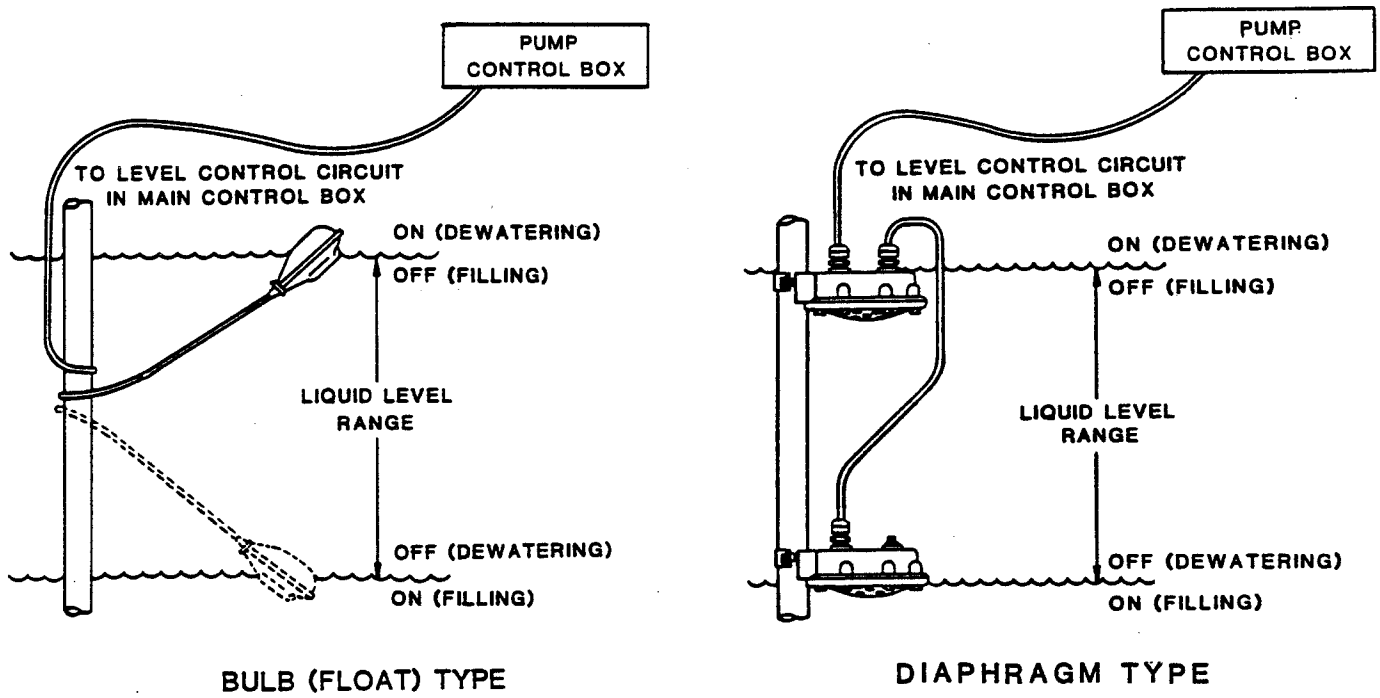

Figure 5. Liquid Level Devices
- a. Measure the incoming voltage across lines (1 & 2, 2 & 3, and 1 & 3) while the pump is **operating at full capacity**. See Figure 5 on page B-12.
Connect the pump power cable to the control box as shown in Figure 5 on page B-12. Use conduit or cable clamps to secure the power and accessory cables to
The standard pump is **not** furnished with a means to automatically regulate liquid level. However, the pump may be controlled to perform filling, or dewatering functions by using **either** of the following optional sensing devices: (see Figure 5 on page B-12).